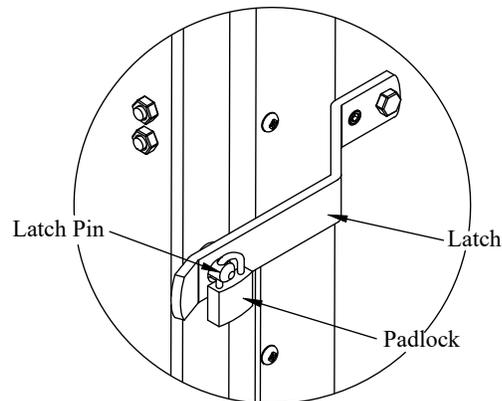

Figure 23: Padlock location.
9. **Lock** the padlock through the hole in the latch pin (Figure 23).